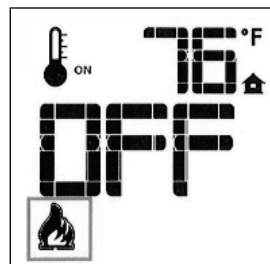

Figure 53. Burner OFF.
■ Press the ON/OFF Key. The display will show only the room temperature and icon. At the same time, the Receiver will deactivate the call for heat and the burner will shut down. Fig. 53. A single “beep” from the Receiver will confirm reception of the command.
■ With the system ON, and the burner flame level at maximum, press the Down Arrow Key once to reduce the flame height by one step. Each time the Down Key is pressed, the flame will step down until the burner is finally turned off. Fig. 53.